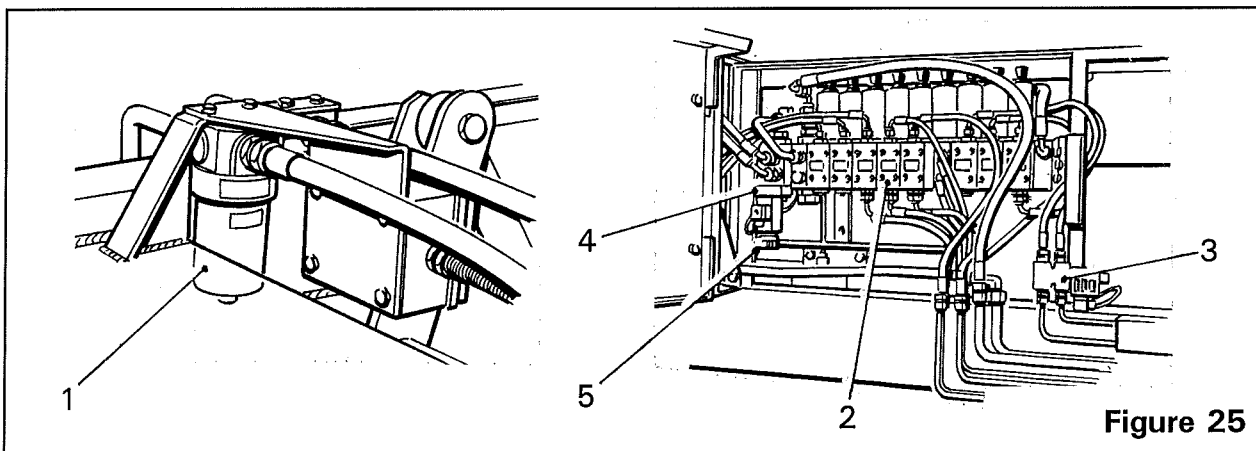

Figure 25
The manual override knob (item 5, figure 25) fitted to the elevator proportional valve should be wound fully out at all times. Failure to do so prevents the web being stopped from the control box.
The hydraulic ram services and discharge elevator drives are supplied with hydraulic oil from the tractor. A minimum supply of 35 litres/minute is fed through the pressure filter (*item 1, figure 25*) into the flow divider section of the auxiliary valve block (*item 2, figure 25*). The system will accept up to 63 litres/minute maximum. On demand a metered flow of 9 to 12 litres is fed through the ram service valves to operate the selected rams. The link valve (*item 3, figure 25*) allows both digger ram circuits to be operated simultaneously when selected on the in-cab control box. The balance oil flow is fed into the proportional valve (*item 4, figure 25*) which controls the discharge web, cross web and rear feed roller motors. The return oil flow from the valves and motors recombines and is returned to the tractor, ideally through a low back pressure or free flow return coupling. No separate relief valve is fitted to the circuit, the system relies totally on the tractor relief valve.
The pressure filter elements (*item 1, figure 25 & item 4, figure 26*) should be replaced after the first 50 hours running time and then every 500 hours or annually thereafter. Subsequently the filter elements should be replaced if the indicators show that the elements are becoming blocked.